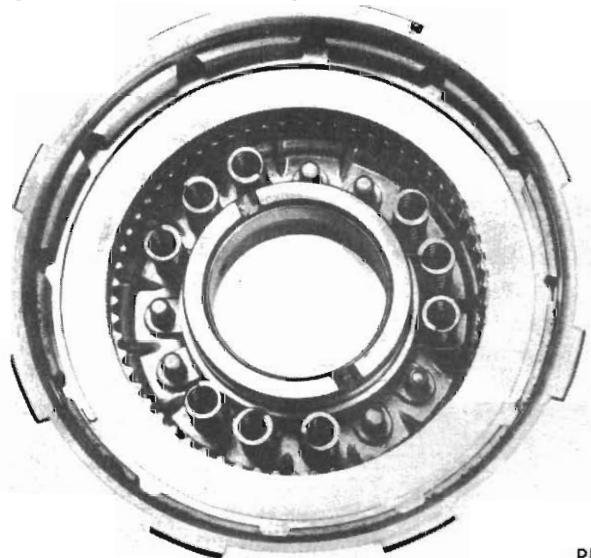

Fig. 77 - Front clutch spring location (9 springs)
(1) Lubricate and install inner seal on hub of clutch retainer. Make sure lip of seal faces down and is properly seated in the groove.
(2) Install outer seal on the clutch piston, with lip of seal toward bottom of clutch retainer. Apply a coating of wax type lubricant or Door Ease to outer edge of seals for easier installation of piston assembly. Place piston assembly in retainer and carefully seat piston in bottom of retainer.
(3) Refer to Fig. 77 and install springs on piston exactly as shown.